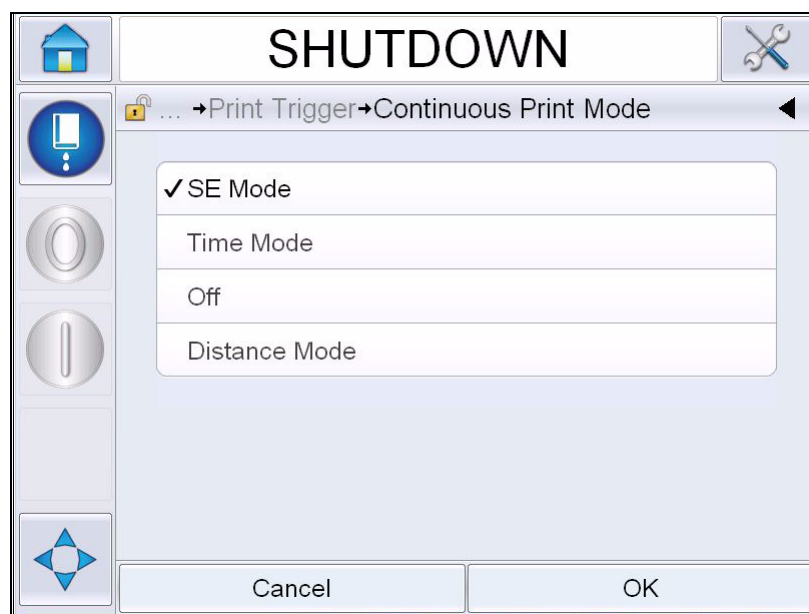

Figure 4-25: Continuous Print Dialog Box
- 1 Select *Continuous Print* from the *Print Trigger Menu*. The *Continuous Print* dialog box appears (see Figure 4-25).